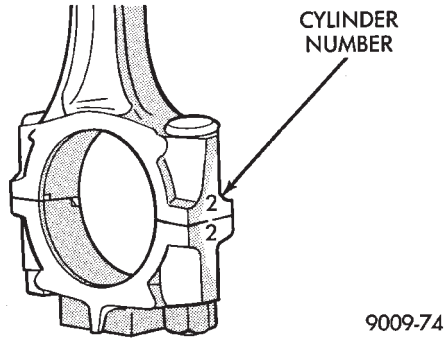

Fig. 93 Identify Connecting Rod to Cylinder
(1) Remove top ridge of cylinder bores with a reliable ridge reamer before removing pistons from cylinder block. **Be sure to keep tops of pistons covered during this operation. Pistons and connecting rods must be removed from top of cylinder block. When removing piston and connecting rod assemblies from the engine, rotate crankshaft so that each connecting rod is centered in cylinder bore.**
(2) Inspect connecting rods and connecting rod caps for cylinder identification. Identify them if necessary (Fig. 93).